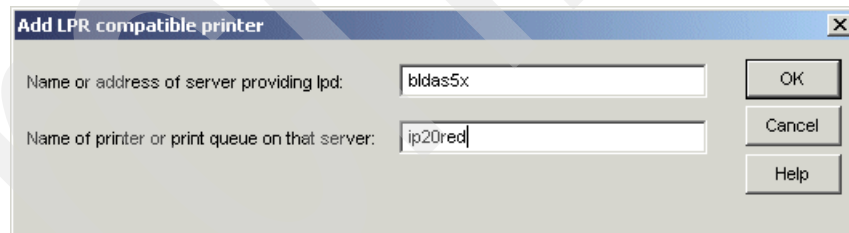

Figure 124. Adding an LPR compatible printer
5. Click **Next** to continue to define your LPR port as shown in Figure 124.